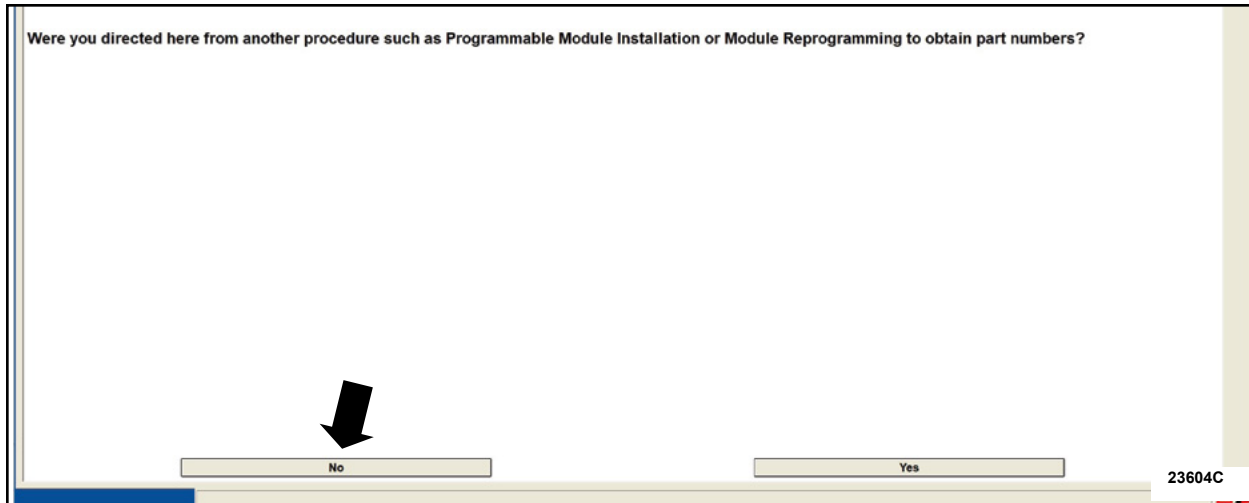

FIGURE 1
3. When asked if you were directed here from another procedure such as Programmable Module Installation or Module Reprogramming to obtain part numbers, select **No**. See Figure 1.